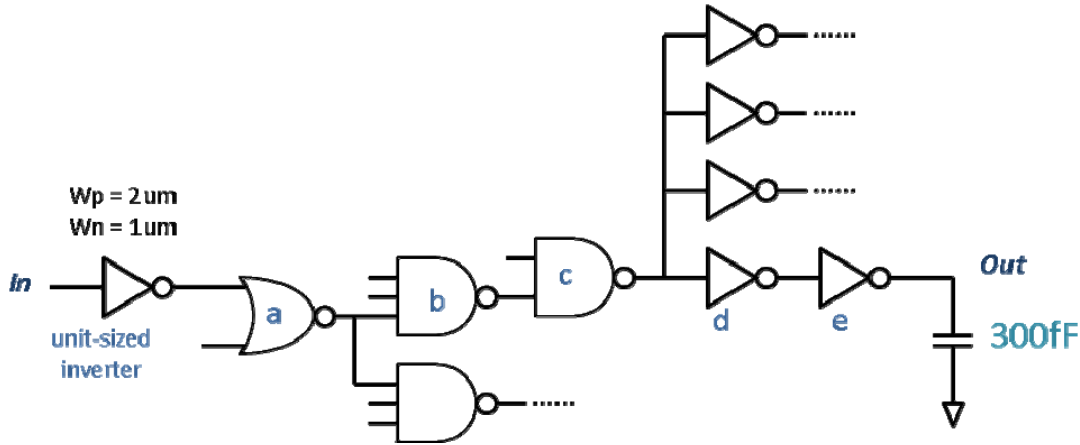

Figure 5.
6. Considering the logic network of Fig. 5, this represents the critical path of a complex logic block. Assume that unit $C_{gate} = 2\text{fF}/\mu\text{m}$ and $C_{int}/C_{gate} = \gamma = 0.5$. All the transistors are long channel for the purpose of calculating logical effort. [14 pts]